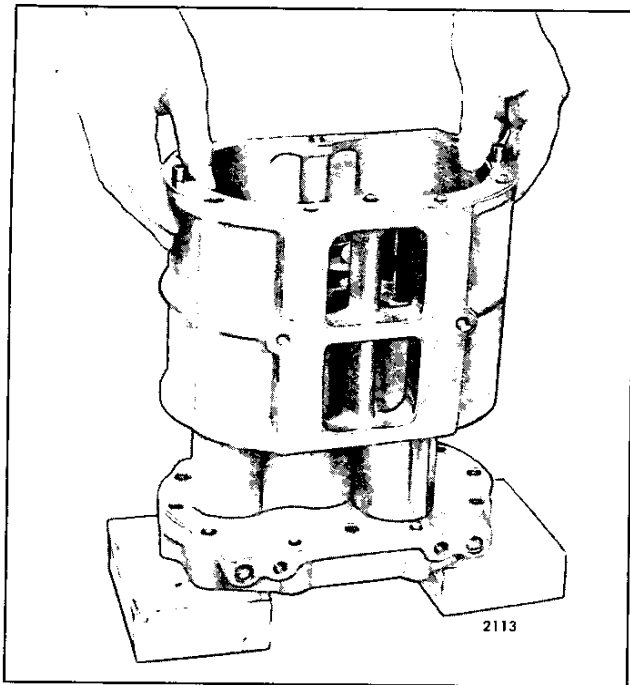

Fig. 14 - Installing Blower Housing Over Rotors
- Install the blower housing over the rotors (Fig. 14).